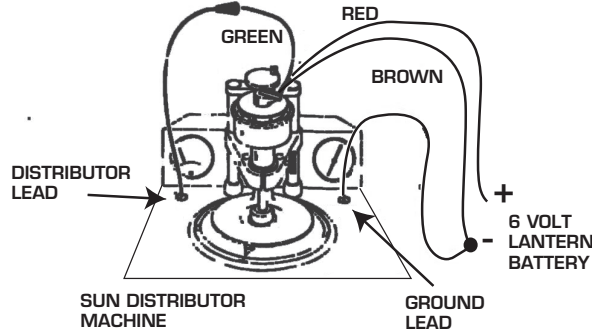

Figure 2
9. Mount connector pins into plastic terminal pin housing supplied. Be sure wires are shoved into pin housing as shown in Figure 2. Shove pins into pin housing until a definite click is heard. Install rotor-shutter onto cam sleeve. Be sure it is sealed all the way down onto cam sleeve.